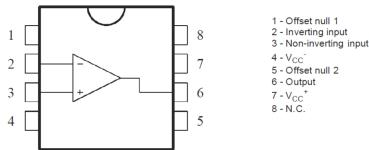

Figure 3: Op-amp
1. Add the feedback control circuit to the plant according to Figure 3. Where $R_1 = R_3 = 150k\Omega$, $R_2 = 3k\Omega$, $C_3 = 0.47\mu F$.